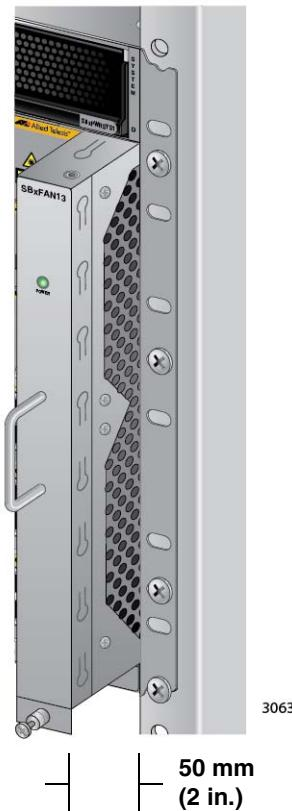

Figure 151. Withdrawing the AT-SBxFAN12 Fan Module 51 mm (2 In.) from the Chassis
4. Slowly pull out the module 51 mm (2 in.). Refer to Figure 151 on page 227.